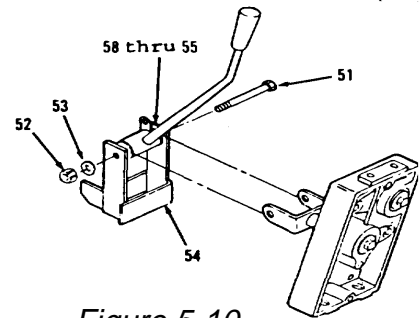

Figure 5-10.
11. Install items 58 thru 55 as an assembly, washer (53), nut (52) and bolt (51) on plate (54, Figure 5-10).